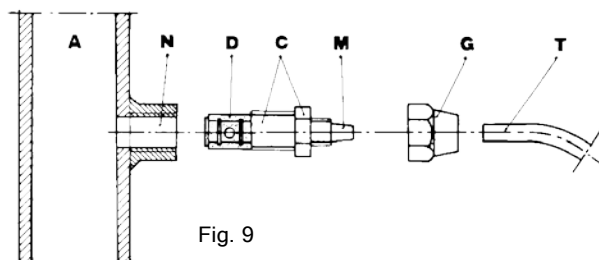

Fig. 9
- g. - Select the most appropriate injection point on a pipe of the plant to be treated and there fit a 3/8" female steel gas thread connector (similar to BSPm). This connector is not supplied with the pump. Screw the injection valve to the gas connector, inserting a gasket as shown in Fig. 9. Then connect the discharge hose to the conical connector on the injection valve and fix it with the supplied tube nut. The injection valve also acts as a no return valve by means of a cylinder sleeve (elastomer, standard supplied in Viton).
3.1 - INJECTION VALVE INSTALLATION DIAGRAM (Fig. 9)